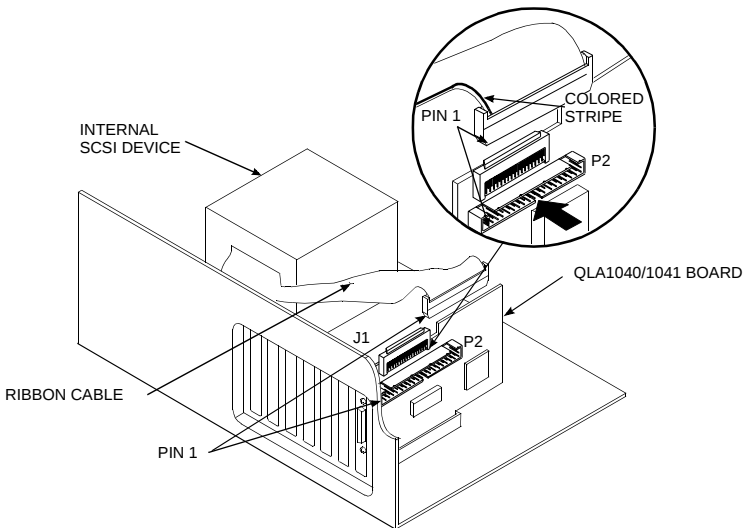

Figure 2-7. Internal SCSI Device and Ribbon Cable
- ❑ Internal: Connect the cable from the devices to the P2 or J2 connector on the QLA1040/1041/1080 boards (see figure 2-7) or the J3 connector on the QLA1240/1280 boards.